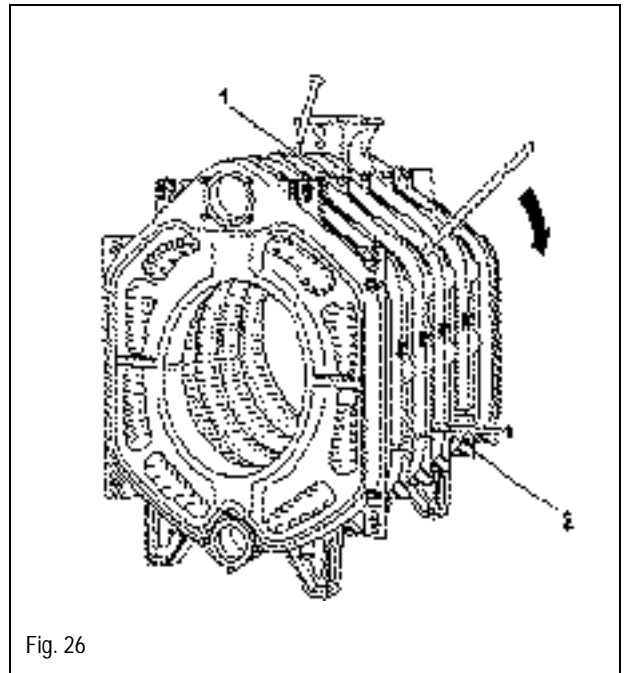

Fig. 26
- Split the boiler at the leaking joint by driving chisels at the top and bottom between the sections (Fig. 26).